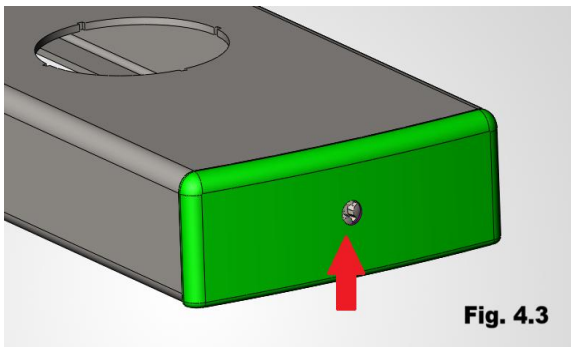

Fig. 4.3 — Lower locking screw (tighten with a Phillips screwdriver)
4. Using a phillips screwdriver, tighten the locking screw located in the lower area of the lower end until it is fully tightened. (Fig. 4.3 e 4.3.1).
⚠ WARNING: Do not omit tightening the locking screw (Fig. 4.3). A fixture that is not properly secured may detach from the wall and cause damage or injury.